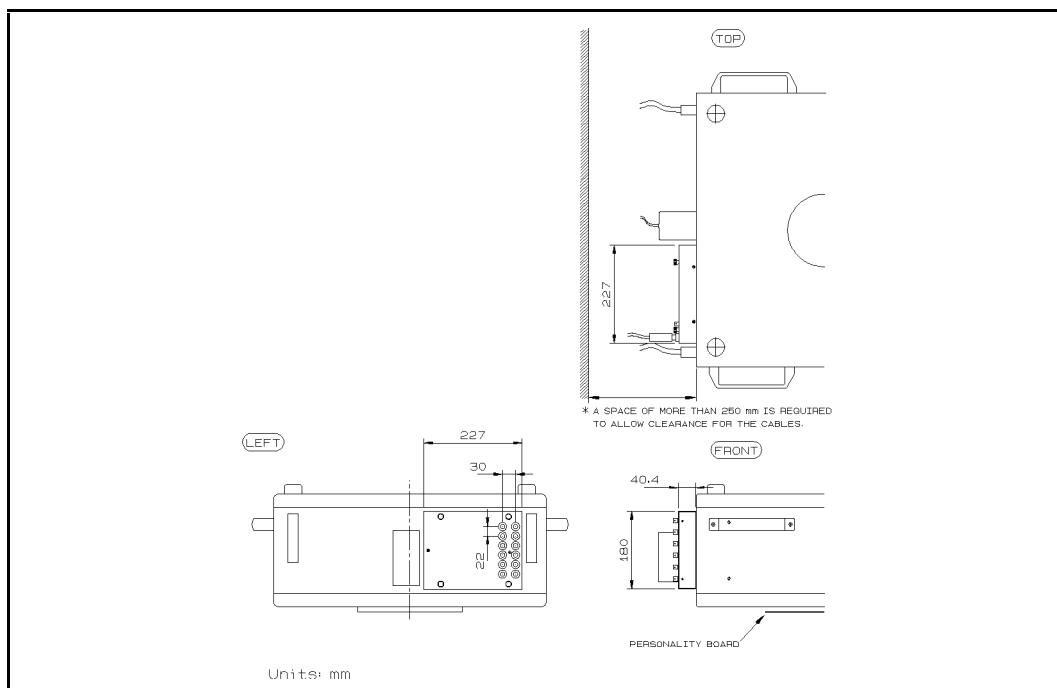

Figure C-1. Port Expander Dimensions
Dimensions: 227 mm (W) by 180 mm (H) by 57 mm (D) (see Figure C-1)